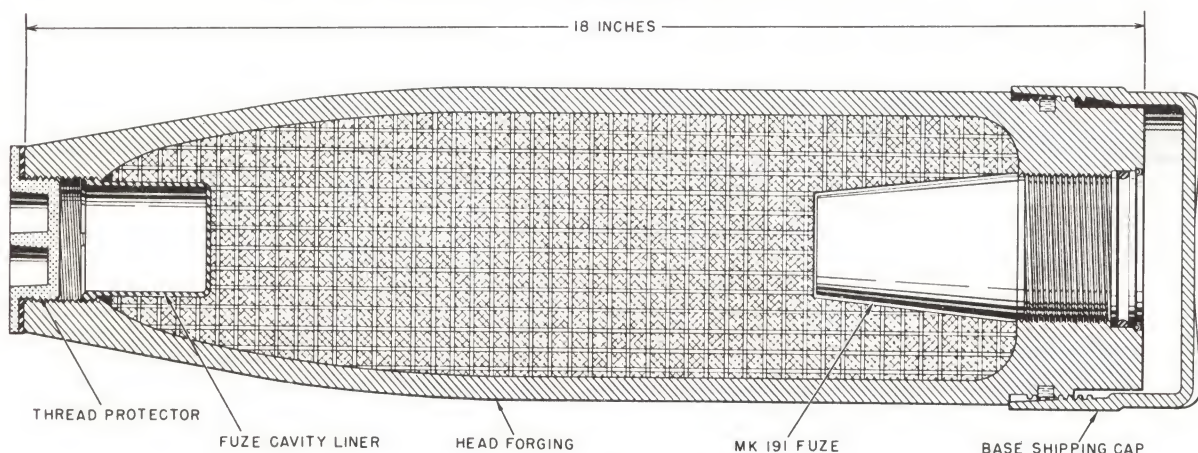

Figure 8 - 5.0-Inch Rocket Head Mk 24 Mod 0 (GP).
5.0-INCH ROCKET HEAD MK 24 MOD 0 (GP). The Mk 24, general purpose (GP) head, shown in figure 8, with nose fuze installed, is 18 inches long, weighs 48 pounds, and carries 10 pounds of explosive. Upon detonation the head produces more than 500 fragments that penetrate 3/8-inch-thick mild-steel